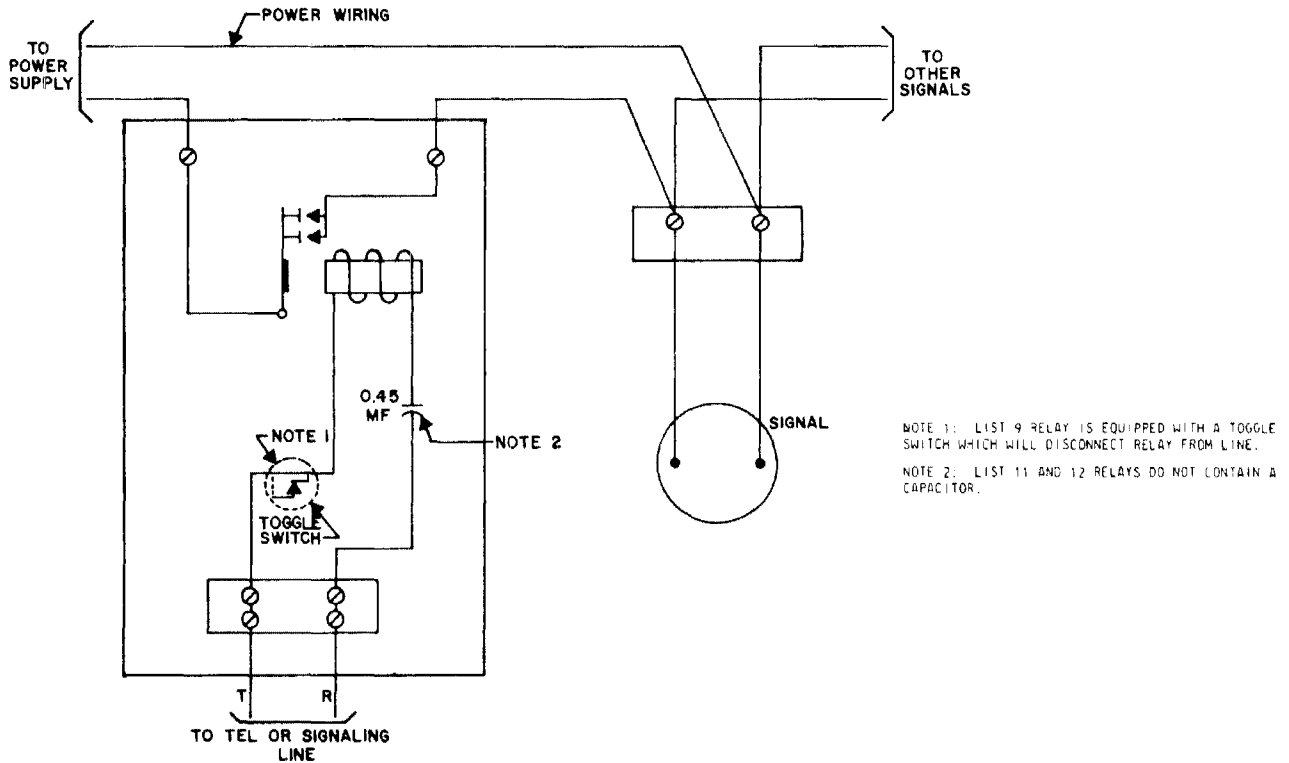

Fig. 5 - KS-16626 Power Relay Set
2.05 Connections for signals which do not have a self contained power relay are shown in Fig. 5. These signals require commercial power wiring between relay set and signal.